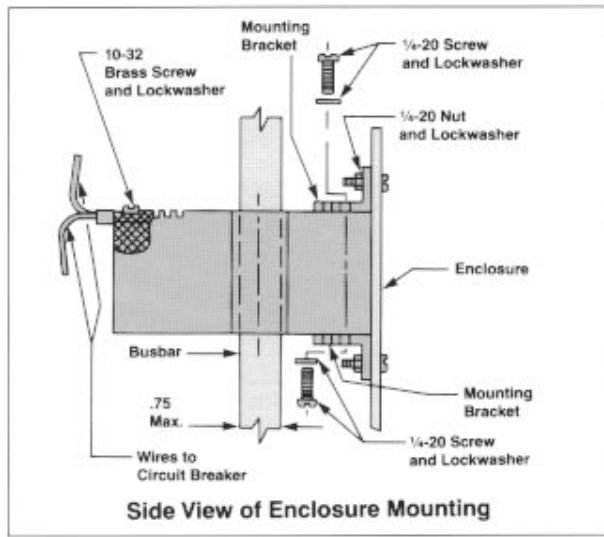

Figure 3
- Mount the L brackets (1) to the transformer (2) with four #1/4-20 screws and lockwashers (3) (Figure 3).
- Slide the transformer (2) over the cables and mount (1) to panel (7) with 1/4-20 screws, lockwashers, and nuts (3).
NOTE Mount screws (3) in direction shown (Figure 3) to maintain electrical spacing.
- Connect leads from terminal X₁ and X₂ (5) on the neutral sensing transformer (2) using the #10-32 terminal screws (6) provided (Figure 3).